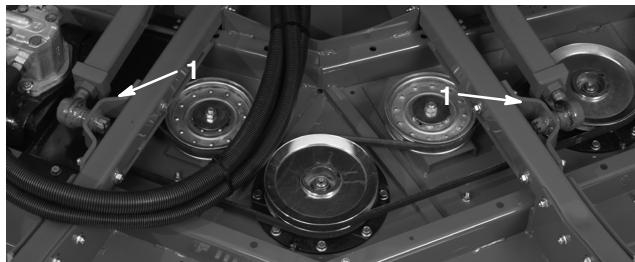

Figure 5
- Lower deck. Remove bolts, washers and locknuts securing each lift arm ball joint mount to cutting unit castor arm tube (Fig. 5).